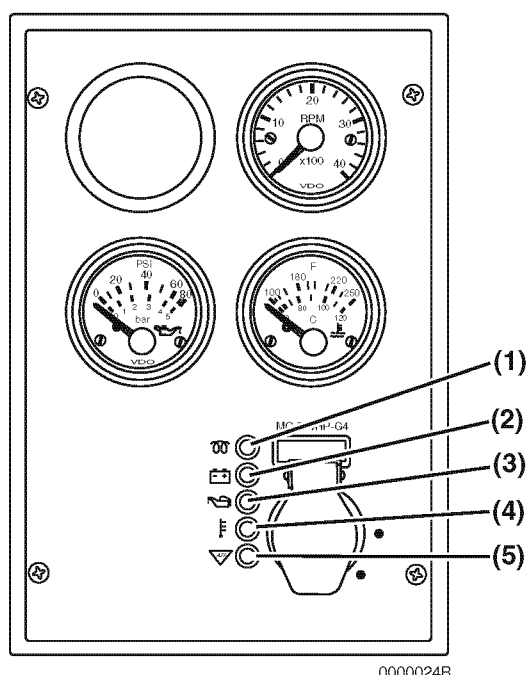
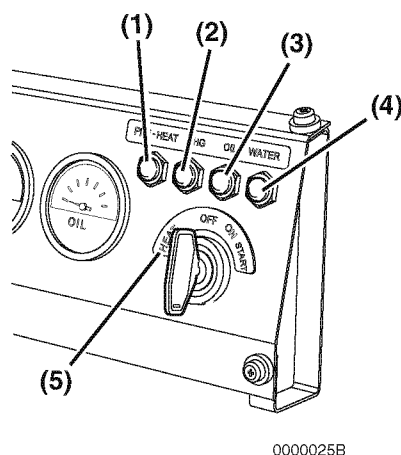

Figure 9
Figure 10
HEAT indicator (Figure 9, (1)) - The pre-heat function is automatically activated when the key switch is turned to the ON position. The indicator flashes for several seconds (4 sec. for IDI models with glow plugs, 15 sec. for DI models with glow plugs or air heater) and when it goes out you can turn the key switch to START.
HEAT indicator (Figure 10, (1)) - Note that on this type of panel you must turn the key to the HEAT position (Figure 10, (5)) to activate the inlet air heater or glow plugs. The indicator will flash for several seconds (4 sec. for IDI models with glow plugs, 15 sec. for DI models with glow plugs or air heater) when you turn the key to HEAT and when it goes out, you can turn the key switch to START.
Battery Charge (Figure 9, (2)) or (Figure 10, (2)) - This indicator will come on if there is a problem in the charging system. This indicator does not indicate if the battery is discharged. See *Troubleshooting Chart* on page 113.
Engine Oil Pressure (Figure 9, (3)) or (Figure 10, (3)) - This indicator will come on if the engine oil pressure is below or exceeds normal limits. See *Troubleshooting Chart* on page 113.
Engine Coolant Temperature (Figure 9, (4)) or (Figure 10, (4)) - This indicator will come on if the engine coolant temperature exceeds normal limits. See *Troubleshooting Chart* on page 113.
Auxiliary (Figure 9, (5)) - Used for special applications.